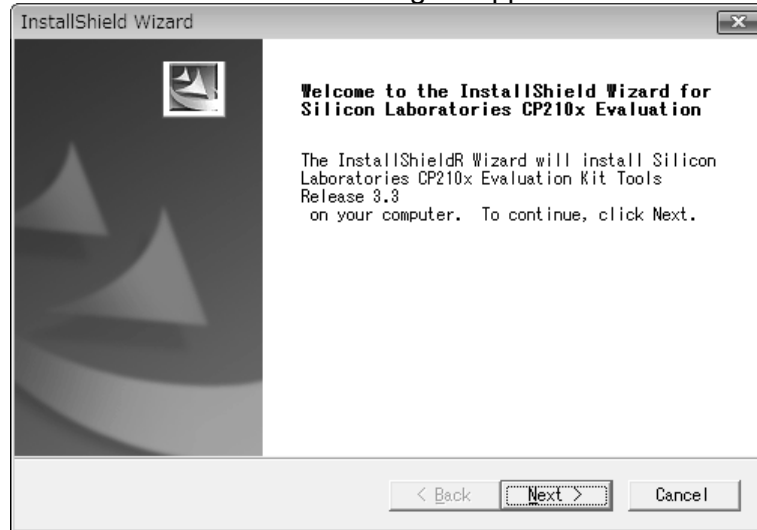

Fig. 53 Installer program start-up
(2) The installer is started and the screen shown in Fig.53 appears.